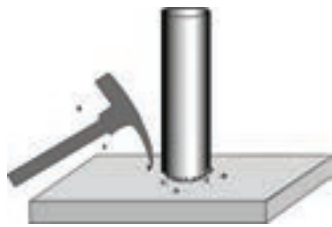

Figure 33: Chipping away weld flux residues
- Welding flux residues are chemically inert in the pickling solutions commonly used by galvanizers; therefore, their existence will produce rough surfaces and coating voids. If a coated electrode is used, all welding flux residues must be removed by wire brushing, chipping, grinding, pneumatic needle gun, or abrasive blast cleaning (Figure 33).